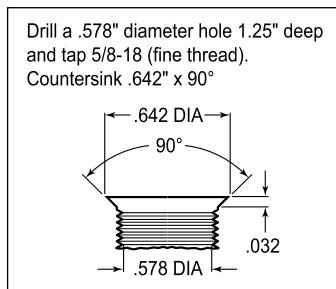

Figure 3. Drill and Tap Detail
NOTE: Some spindles in this year range may require the following modifications (reference Figure 1 and Figure 3): Top anchor pin hole (Z) must be drilled and tapped to the dimensions as outlined in Figure 3. The lower bolt hole (Y) in the spindle used to mount the new caliper bracket, and the mating steering arm hole, must be enlarged to .50" by drilling. It is recommended these modifications be performed by a qualified machinist.